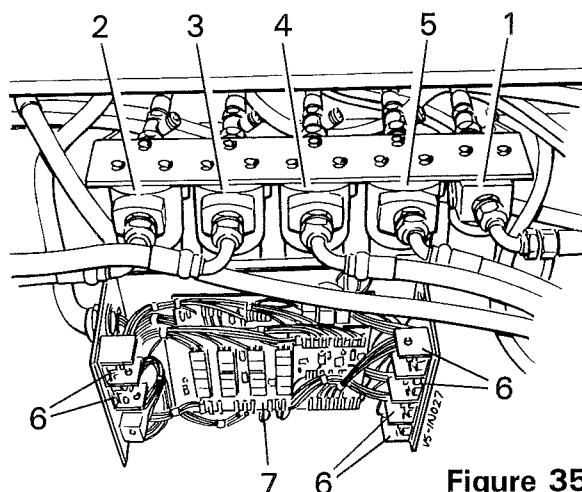

Figure 35
The pressure filter elements (*item 1, 2, 3, 4 & 5, figure 35*) should be replaced after the first 50 hours running time and then every 500 hours or annually thereafter. Subsequently the filter elements should be replaced if the indicators show that the elements are becoming blocked.
2. In the case of the auxiliary circuit pressure filter (*item 1, figure 35*), operate the spool valve feeding the harvester to release any residual pressure and then disconnect the feed hose from the tractor.
The basic test to confirm an electrical fault if a service does not operate, is to try to operate the service using the manual override pins fitted to the hydraulic valve block. If the service operates manually, then checks should be made to see if power is reaching the relevant solenoid on the valve. Tell tale lights are incorporated in the distribution boards (*item 7, figure 35*) in the rear distribution box. If the service does not operate manually, then it is possible the fault lies within the hydraulic system.
The minimum and maximum speed of the discharge elevator, cleaner unit, digger web, agitators, sweeping clod fingers, and manned picking table are factory set on the control cards (*item 6, figure 35*) inside the rear distribution box. Should it be necessary to reset the control cards, the following procedure must be followed.